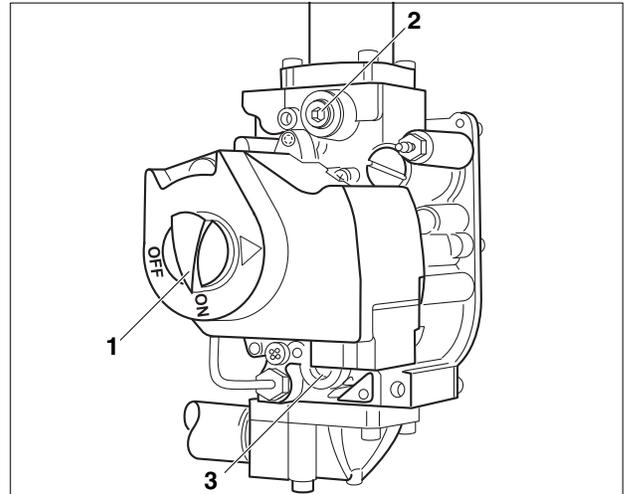

Fig. 8 Gas control valve
21. If the boiler has not been placed in operation follow the installation instructions in GA244 Installation , Operation and Maintenance Manual supplied with the boiler. If the boiler has been in operation, then open the main gas shut-off valve. Test the gas piping on the input side of the gas control (Fig. 8) for leaks by applying a soap and water solution. If no leaks are found, go to step 23. If any leaks are found, shut off the main gas shut-off valve.
23. Shut off the main gas supply shut-off valve. Remove the line pressure tapping plug (Fig. 8, **Item. 2**) from the gas control. Install a test plug, and hook up a manometer to measure the supply pressure.
24. Remove the manifold pressure tapping plug (Fig. 8, **Item. 3**) from the gas control valve. Install a test fitting and hook up a manometer to measure the manifold pressure.
- C)** Use only your hand to turn the gas control knob (Fig. 8, **Item. 1**). Never use tools. If the knob will not turn by hand, don't try to repair it, call a qualified service technician. Force or attempted repair may result in a fire or explosion.